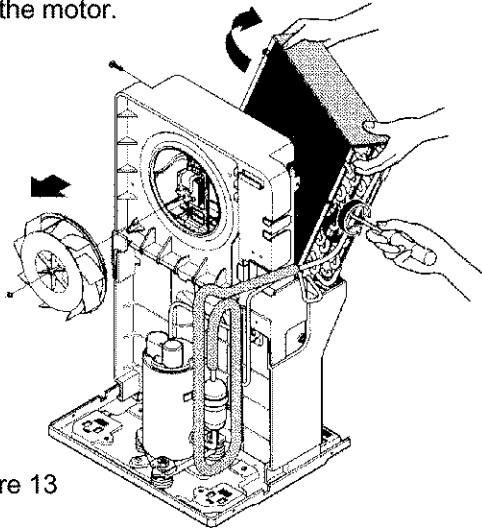

Figure 13
3. Carefully lift the condenser coil and rotate it about 45 degree clockwise. (See Figure 13.)